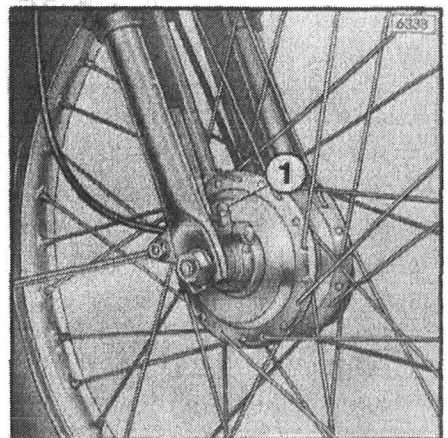

Fig. 3
- 1) At the lubrication nipple (figure 3/1) one or two strokes out of the grease gun.